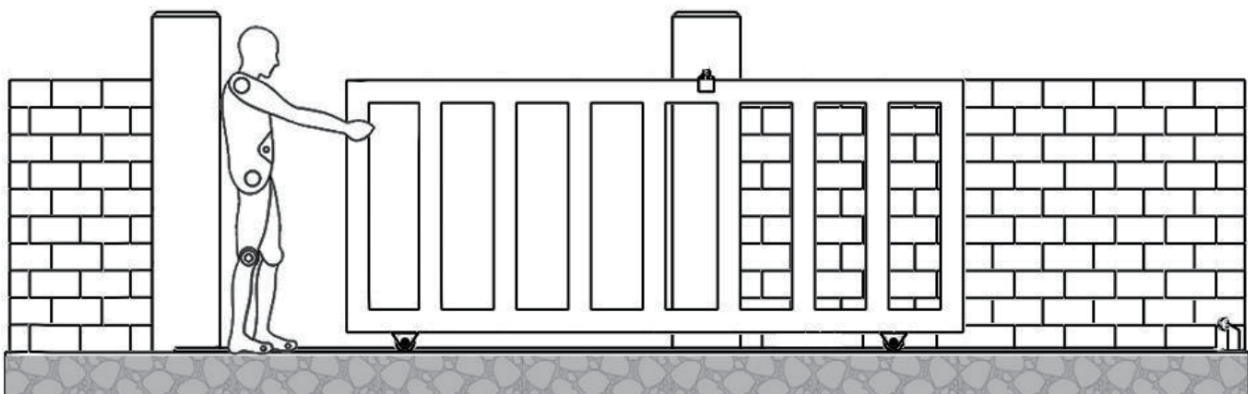

Fig 5
If your gate needs to open from the other direction (to the left, refer to Fig 4) your motor needs to be mounted on the left-hand side as shown, you will need to switch 2 wires of motor (Fig 14) at random. And swap over two magnets positions (Fig 5).
- ◆ Be sure that the opener is installed in a level and paralleled position and is properly secured and the gate can be moved smoothly push or pull by hand before installing motor(Fig 5).